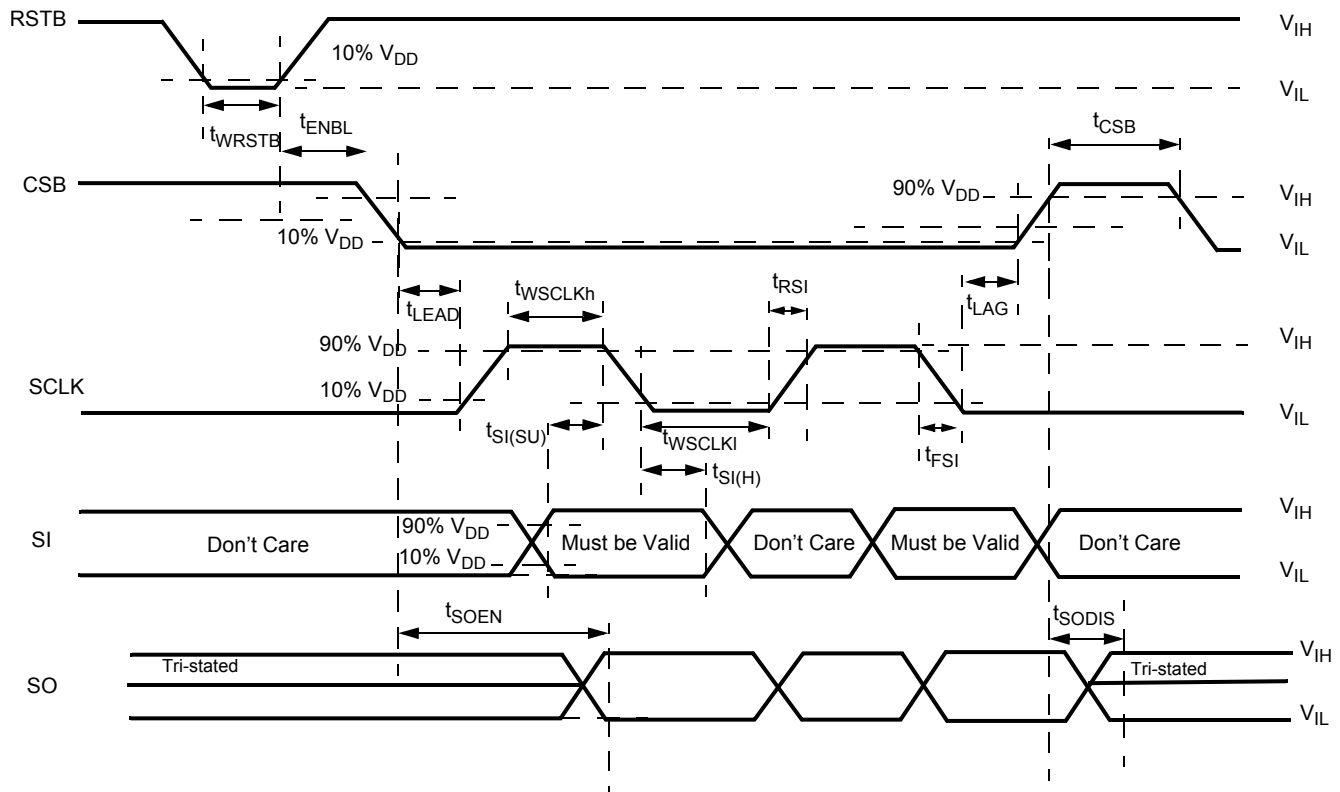
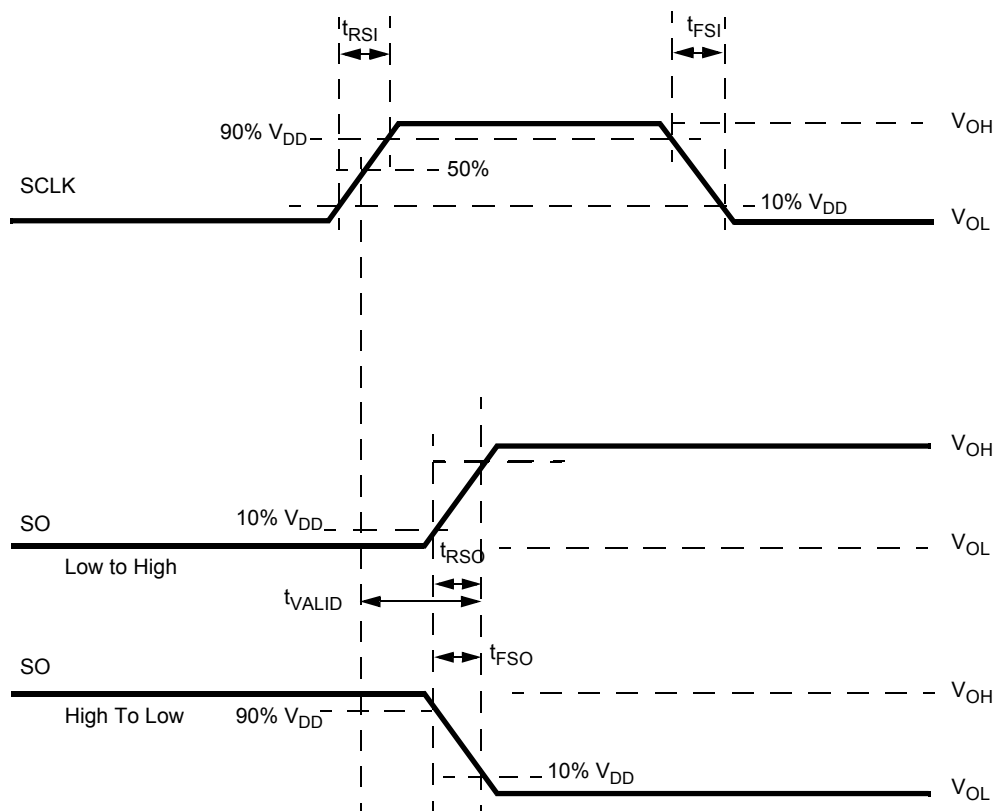

Figure 7. Timing Requirements During SPI Communication
Figure 8. Timing Diagram for Serial Output (SO) Data Communication
edge of CSB. The SO output driver is enabled when CSB is logic [0]. CSB should transition from a logic [1] to a logic [0] state only when SCLK is at logic [0] (Figure 7 and Figure 8). CSB is internally pulled up to V_{DD} through I_{UP} .
Serial input (SI) data bits are shifted in at this pin. SI data is read on the falling edge of SCLK. 16-bit data packages are required on the SI pin (see Figure 7), starting with bit D15 (MSB) and ending with D0 (LSB). All the internal device registers are addressed and controlled by a 4-bit address (D9-D12) described in Table 10. Register addresses and function attribution are described in Table 11. The SI pin is internally connected to a pull-down current source, I_{DWN} .